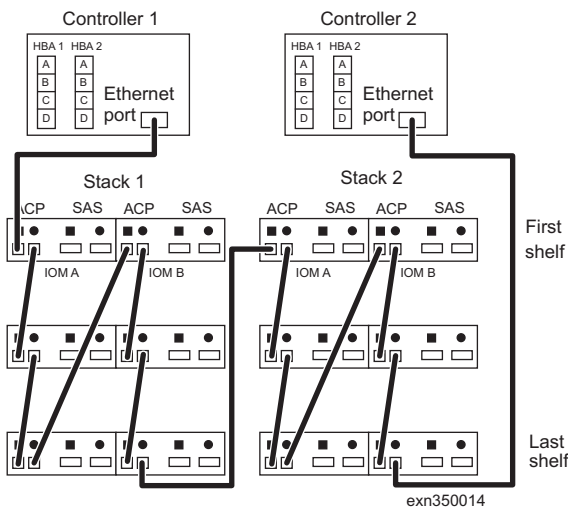

Figure 15. Cable the ACP connections
4. Cable the ACP connections, as shown in Figure 15.